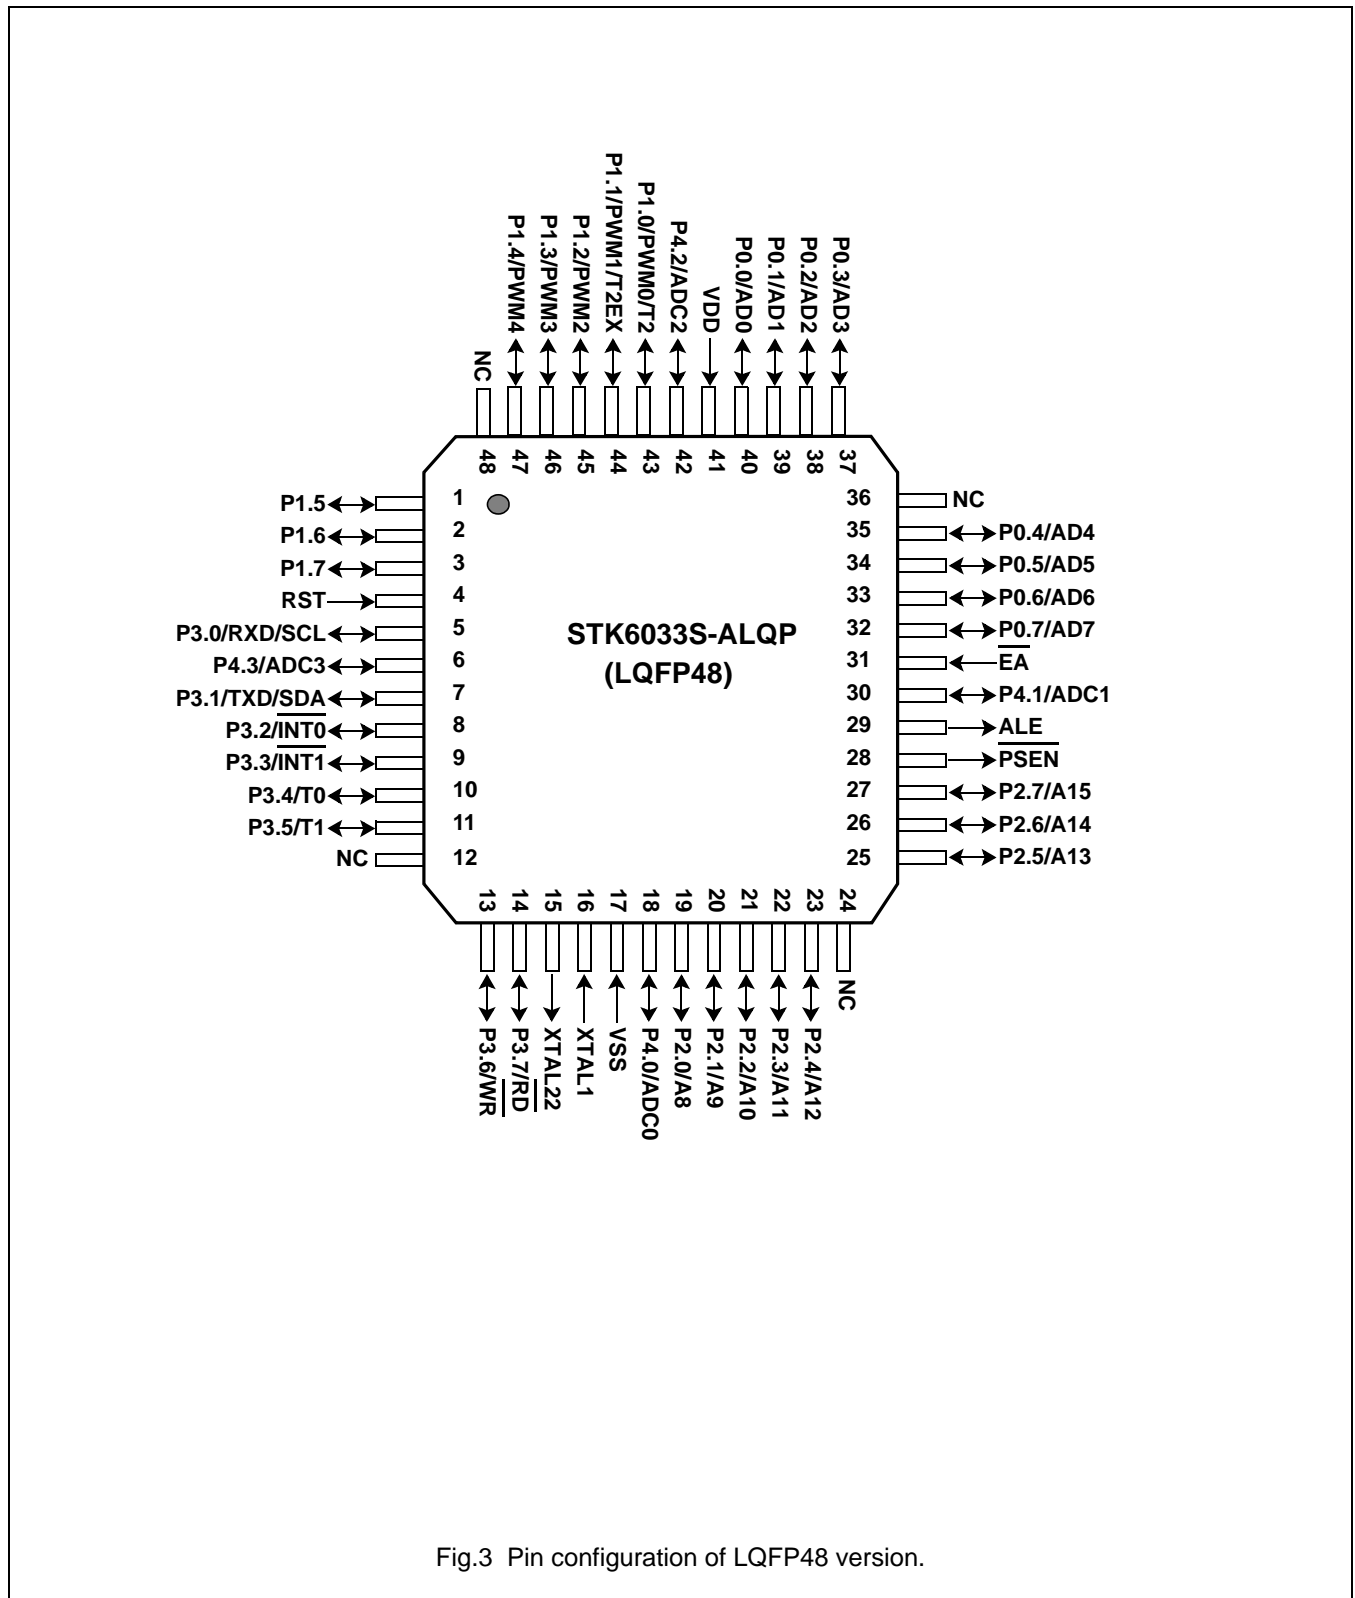

Fig.3 Pin configuration of LQFP48 version.
- Figure 3** Pin configuration of LQFP48 version.... Page 7